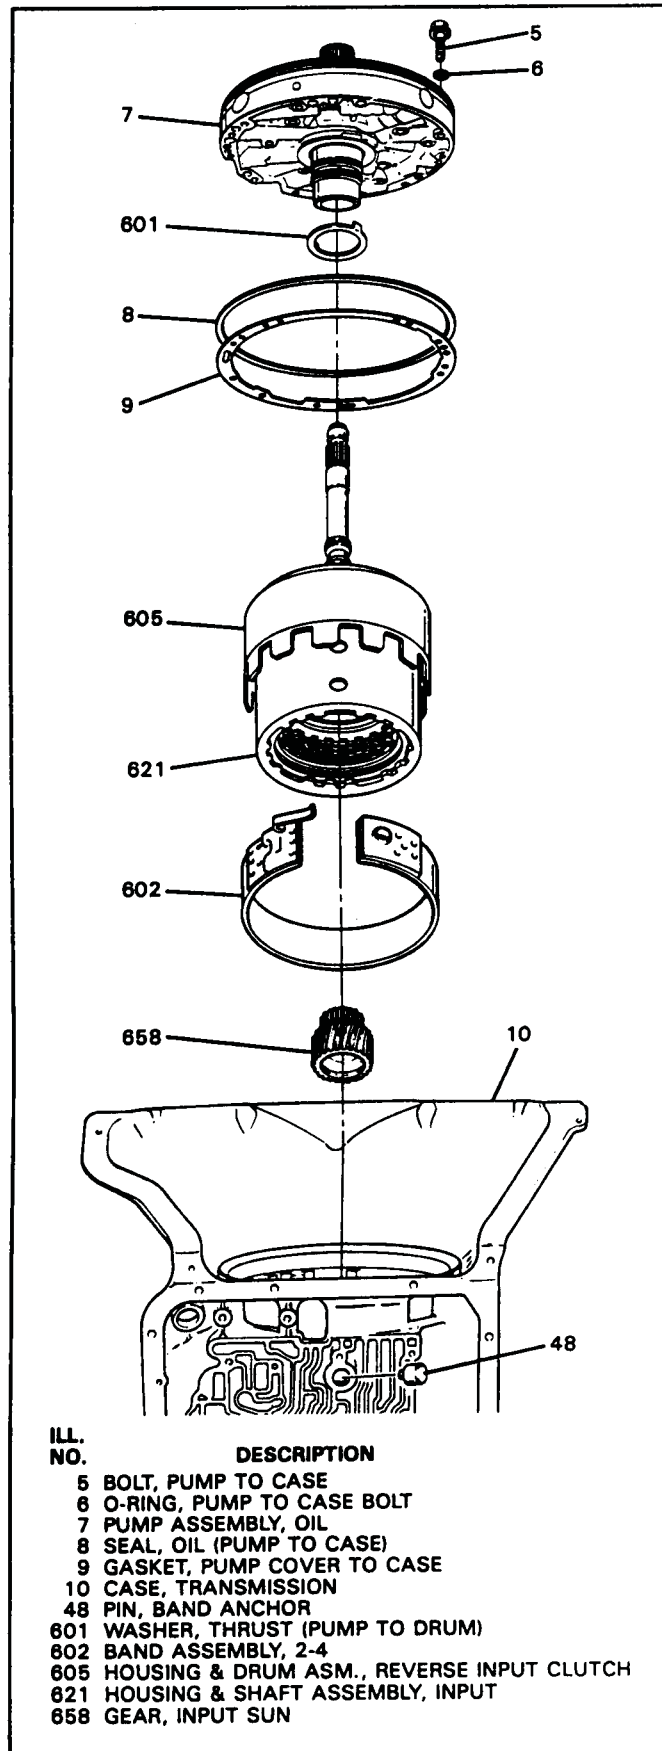

Figure 64
3. Grasp the turbine shaft and lift straight up, removing the input housing and reverse input drum together (See Figure 64).
4. Remove the input sun gear as shown in Figure 64.